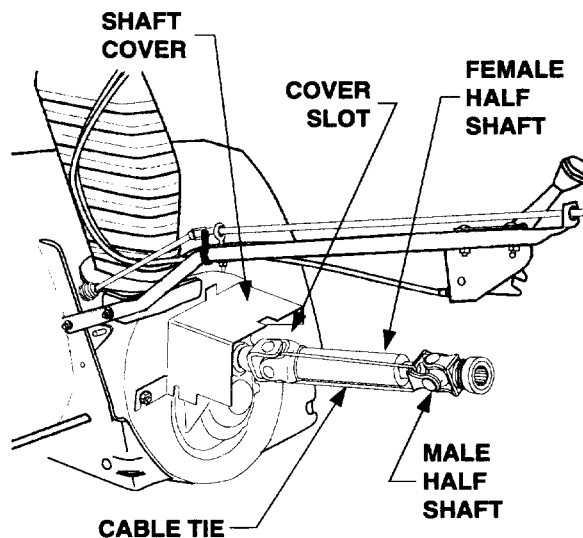

Figure 10
2. Cut the cable tie holding the two halves of the drive shaft together and slide the male half from the female half (See Figure 10).
3. Pivot the female half shaft to the right and place in the slot in the right side of the shaft cover (See Figure 10).